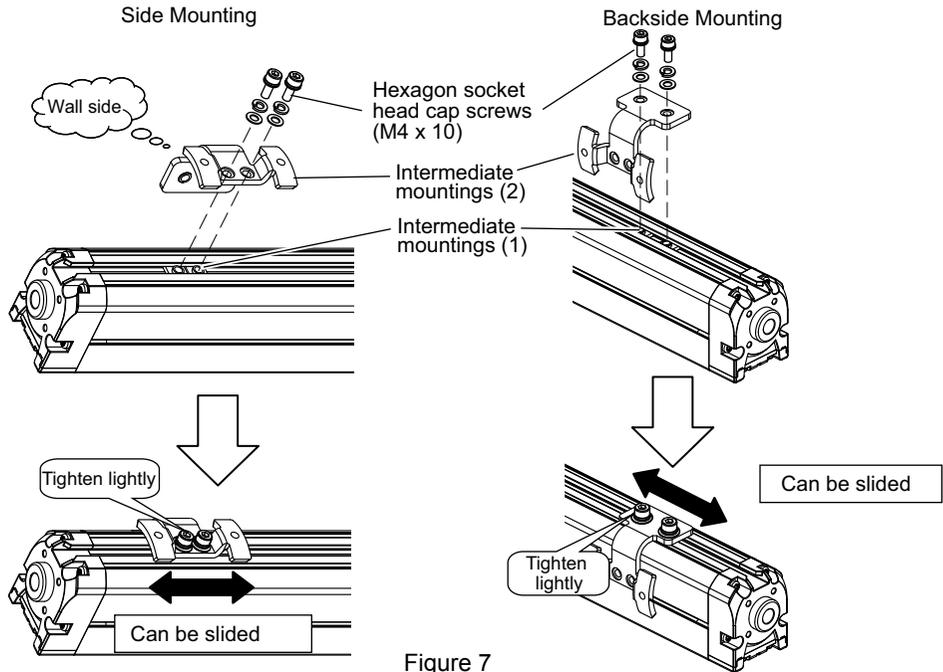

Figure 7
- Align the screw holes of intermediate mountings (1) inserted into the T-slot with the intermediate mounting (2), and fasten them lightly using two attached hexagon socket head cap screws (M4 x 10). (Figure 7)